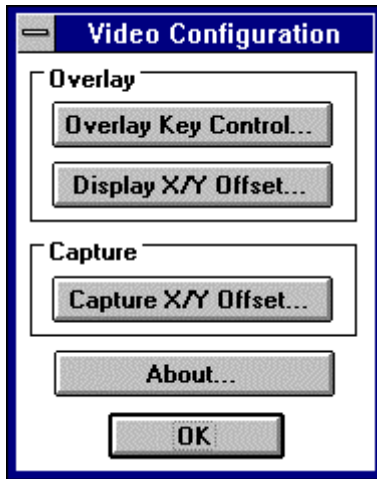

Figure 3-22.
4. **CLICK** on the “Adjust Colors” button to make adjustments of brightness, contrast, saturation and hue. **CLICK** on “Configure Video” button to make adjustments on Overlay Key Control, Display X/Y Offset, and Capture X/Y Offset (see Figure 3-22).